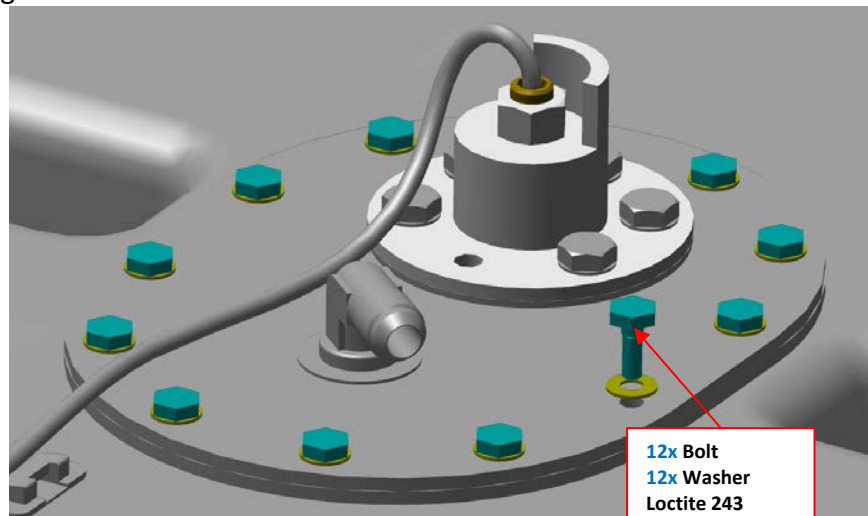

Figure 6: Fuel Tank Access Plate.
6. Remove bolts that secure access plate and remove the access plate assembly from the fuel tank. Refer to Figure 6.